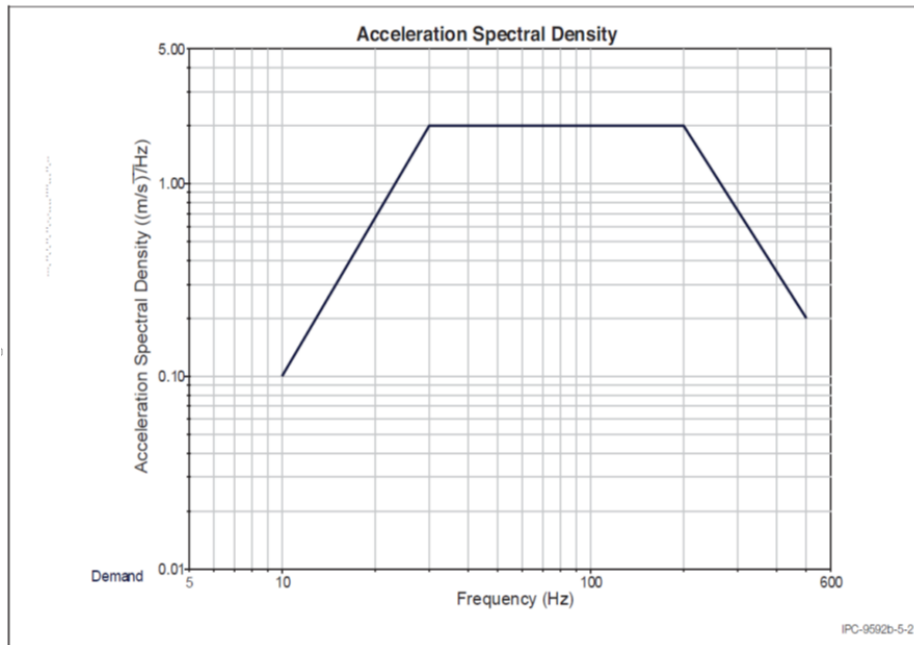

Figure 28. Class II PCDs Operating Vibration Test: Acceleration vs Frequency
**Test Method:** The devices shall be tested per the methods described in IEC 60068-2-64, Environmental testing -Part 2: Test methods - Test Fh: Vibration, broad-band random (digital control) and guidance. Each device shall be tested in three axes for a minimum of 30 minutes per axis. The device shall be powered for the duration of the test at nominal input voltage and no load. For operating vibration testing, see Figure 28